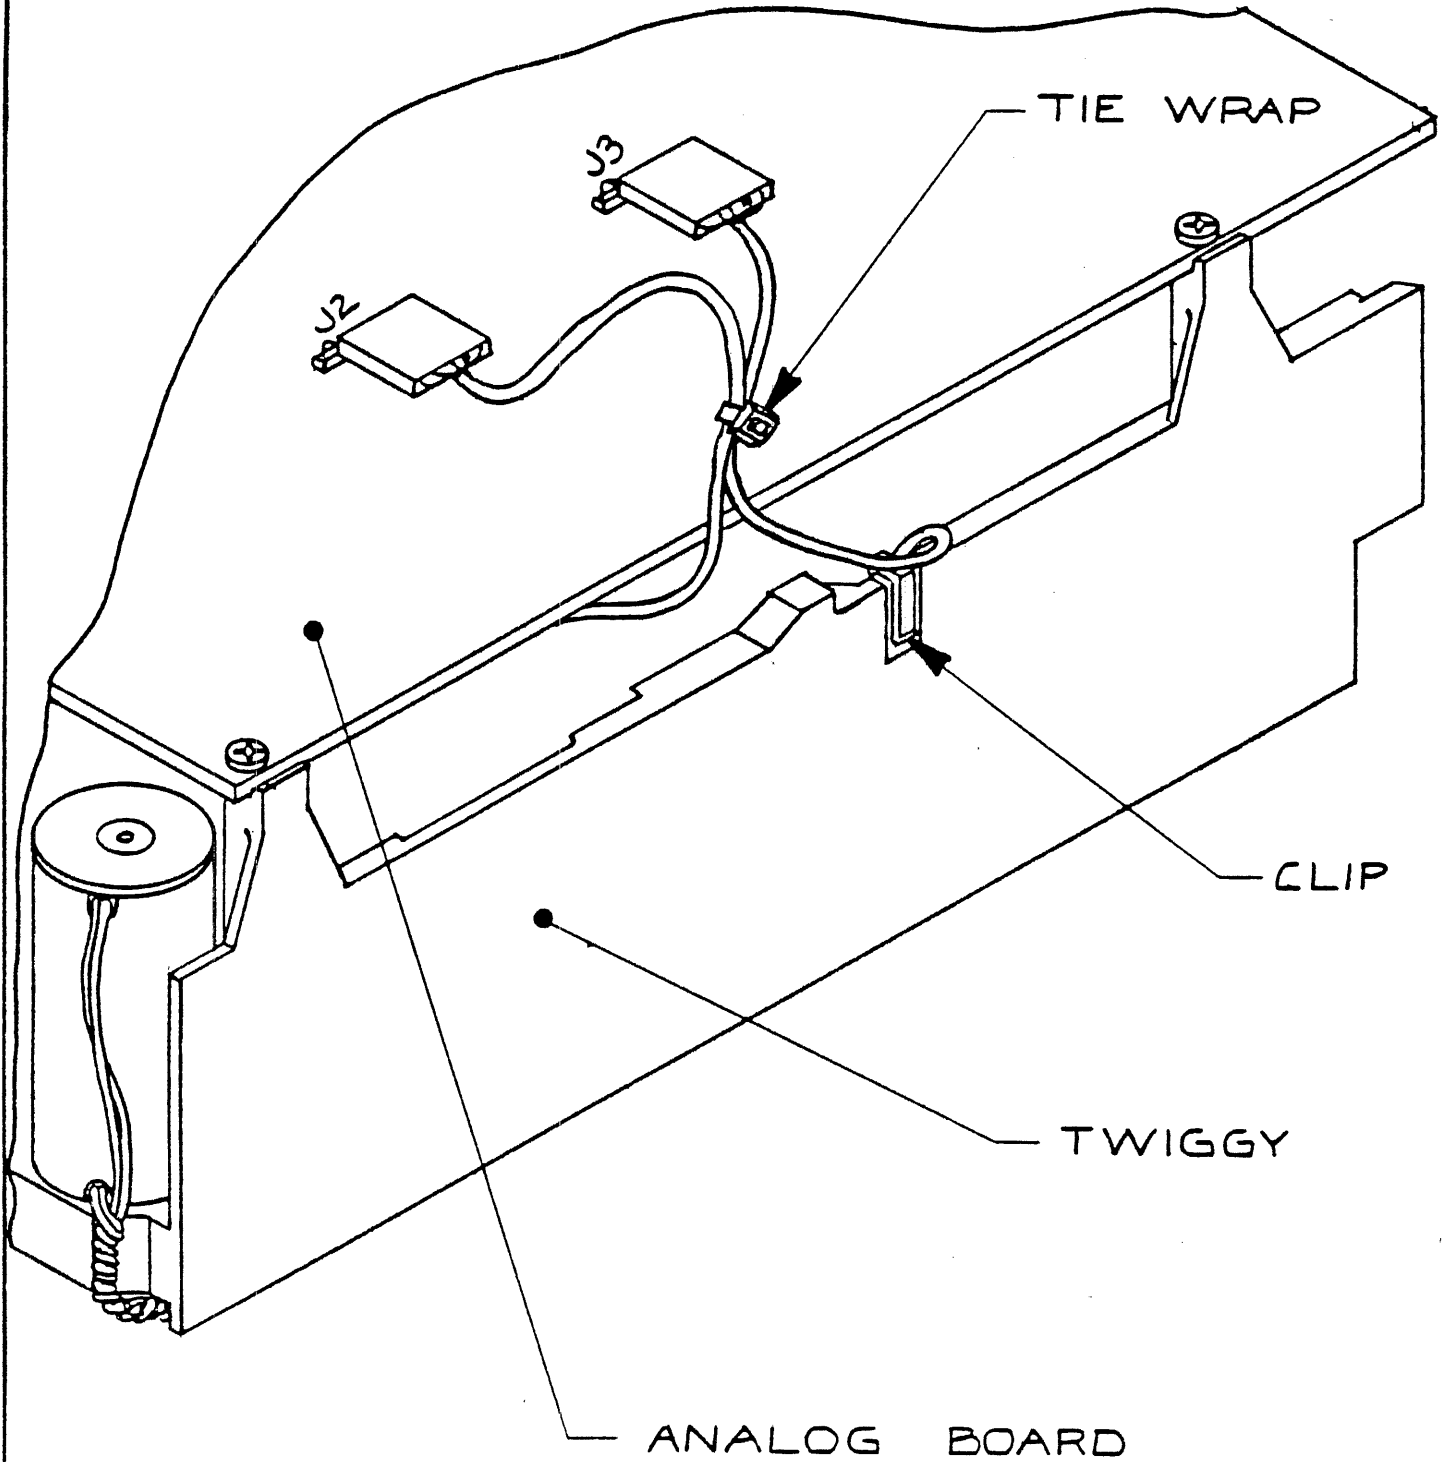

FIGURE 2. THE CORRECT TIE-WRAP OF THE HEAD CABLES
- 7.3.3 Make sure the head cables are tie wrapped as shown in Fig. 2.